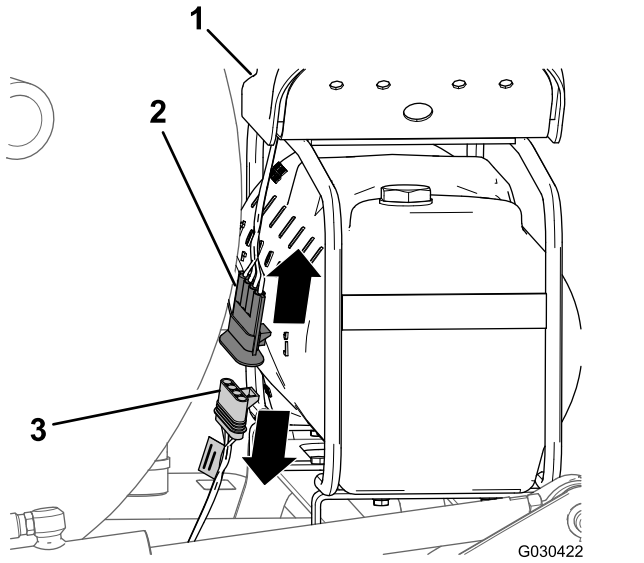

Figure 4
1. At the back of the foam-marker tank, locate the wire harness at the compressor (Figure 4).
2. Disconnect the 4-pin connector of the compressor harness from the 4-socket connector of the rear wire harness of the machine (Figure 4).